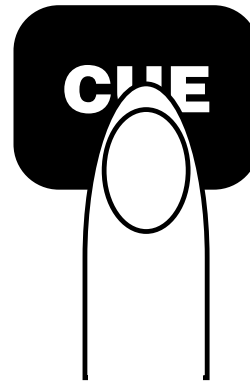

Fig. 11
- 2) Press the CUE button during playback to return to the position at which playback started.(Back Cue) (Figure 11)